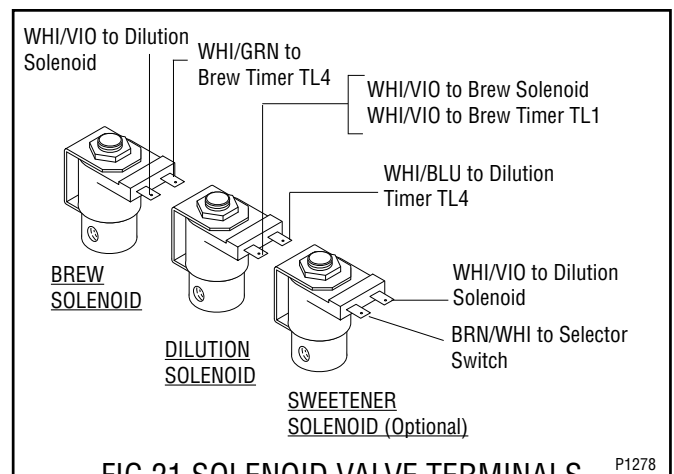

FIG.21 SOLENOID VALVE TERMINALS
10. Refer to Fig. 21 when reconnecting the wires.